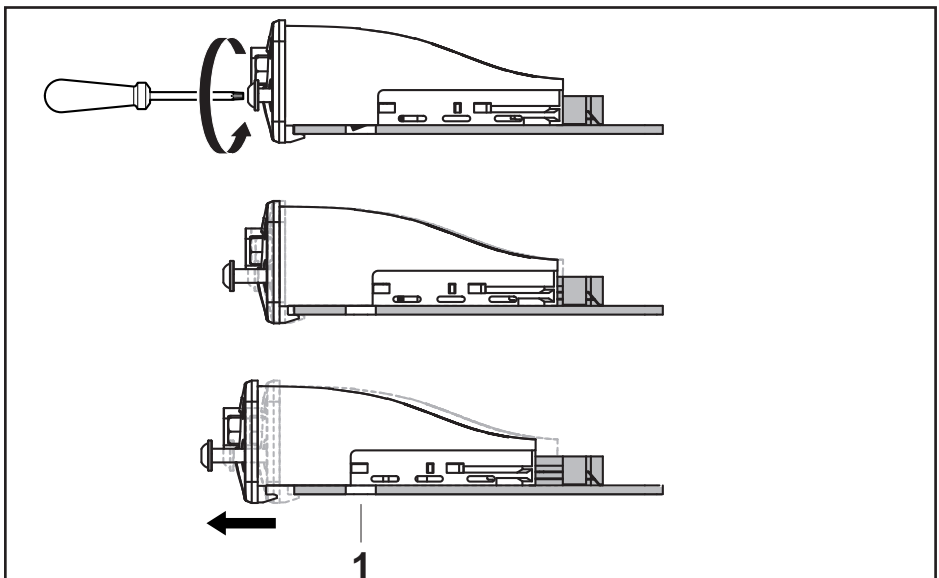

Fig. 4: Releasing the lock
2. Loosen the front torx screws. The IMpdp interface module may only be removed once the lock has been completely released (see Fig. 4).